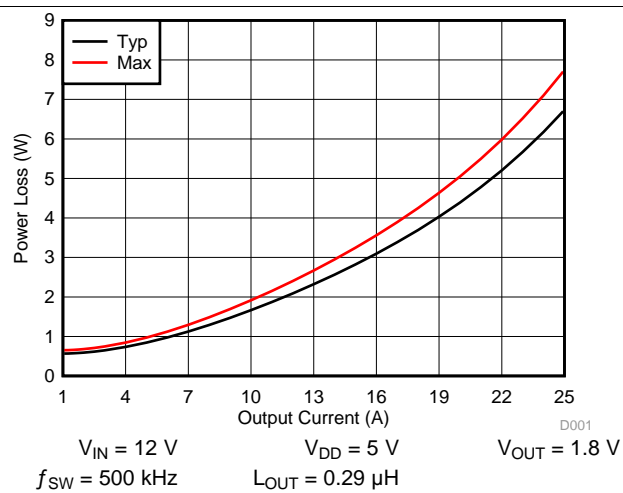

Figure 1. Power Loss vs Output Current
MOSFET centric parameters such as $R_{DS(ON)}$ and Q_{gd} are primarily needed by engineers to estimate the loss generated by the devices. In an effort to simplify the design process for engineers, Texas Instruments has provided measured power loss performance curves. Figure 1 plots the power loss of the CSD97374Q4M as a function of load current. This curve is measured by configuring and running the CSD97374Q4M as it would be in the final application (see Figure 14). The measured power loss is the CSD97374Q4M device power loss which consists of both input conversion loss and gate drive loss. Equation 1 is used to generate the power loss curve.
The power loss curve in Figure 1 is measured at the maximum recommended junction temperature of $T_J = 125^\circ\text{C}$ under isothermal test conditions.
- Typical power loss at 15 A = 2.8 W (Figure 1)